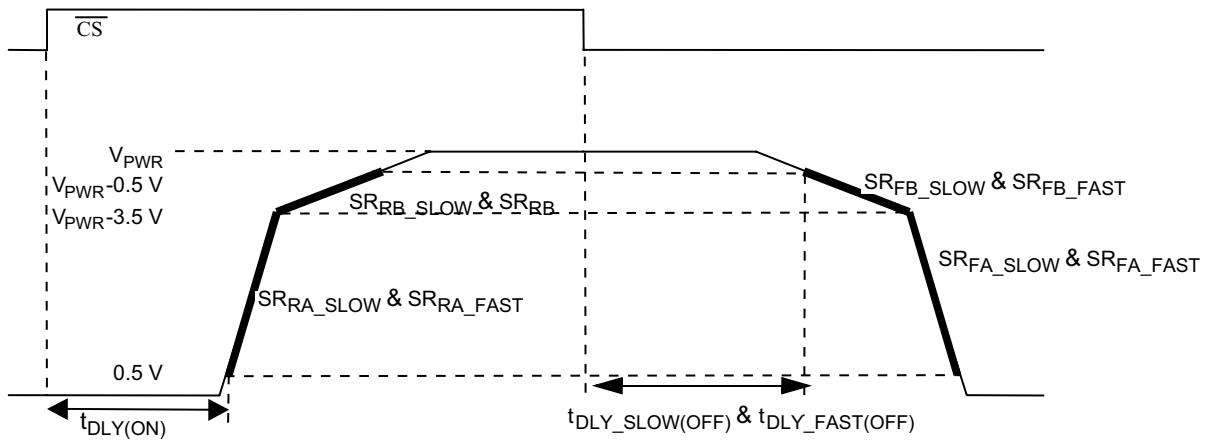

Figure 4. Output Slew Rate and Time Delays
- Rise and Fall Slew Rates A measured across a 5.0 Ω resistive load at high-side output = 0.5 V to V_{PWR}-3.5 V (see Figure 4, page 13). These parameters are guaranteed by process monitoring.
- Rise and Fall Slew Rates B measured across a 5.0 Ω resistive load at high-side output = 0.5 V to V_{PWR}-3.5 V (see Figure 4). These parameters are guaranteed by process monitoring.